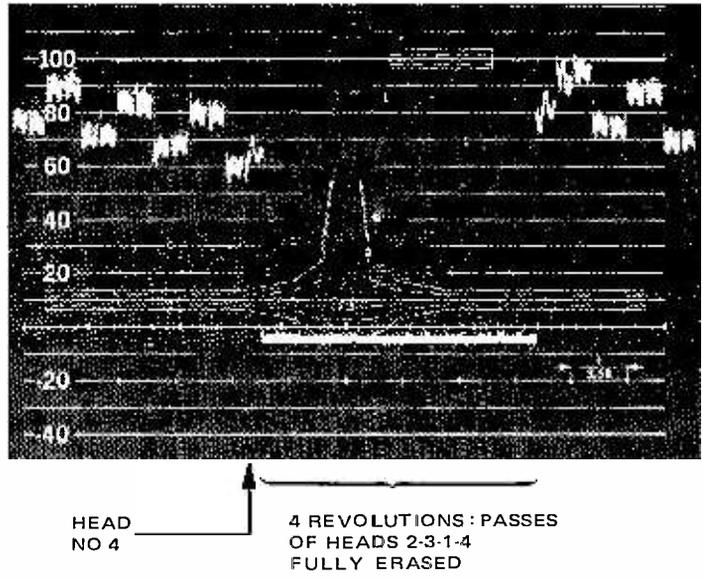

Figure 3-7. Correct Erase Point
8. Adjust the ERASE DELAY potentiometer (Table 3-6, Index No. 6) so that the envelope of head No. 4 at the beginning of the rf level display is at full level, and the next 15 envelopes (heads 2, 3, 1 and 4 in that order) are completely erased (see Figures 3-7 and 3-8).